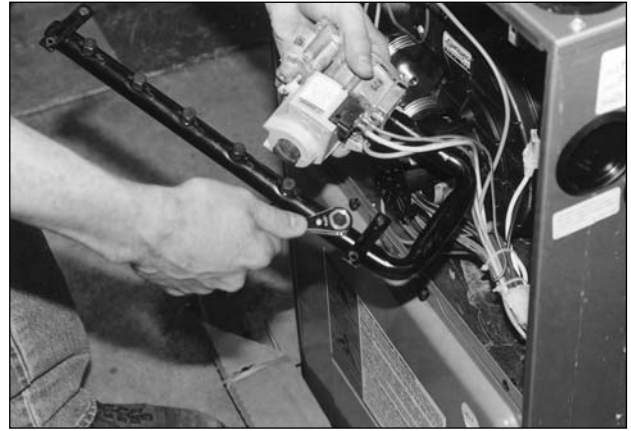

FIGURE 4
5. Remove the existing orifices from the gas manifold using a ratchet with a 7/16" socket. See Figure 4.